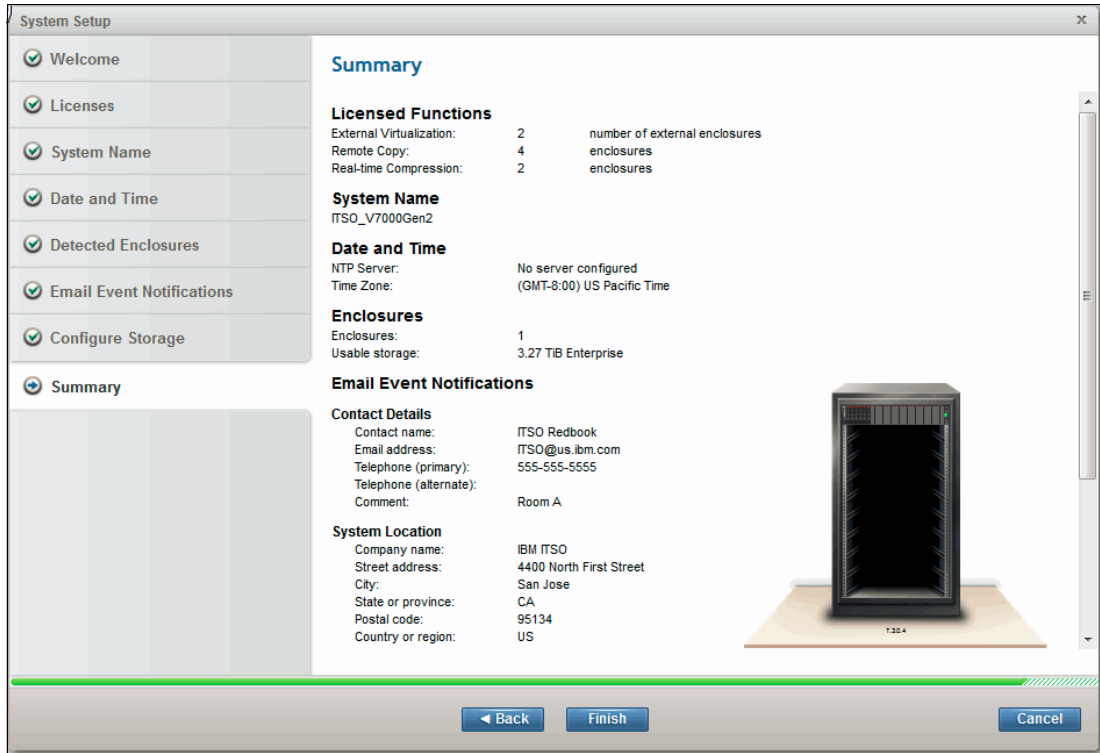

Figure 5-29 Summary
23. This takes you to the final page of the Initial setup, which is the Summary, as shown in Figure 5-29. Click **Finish** to be taken to the main GUI.